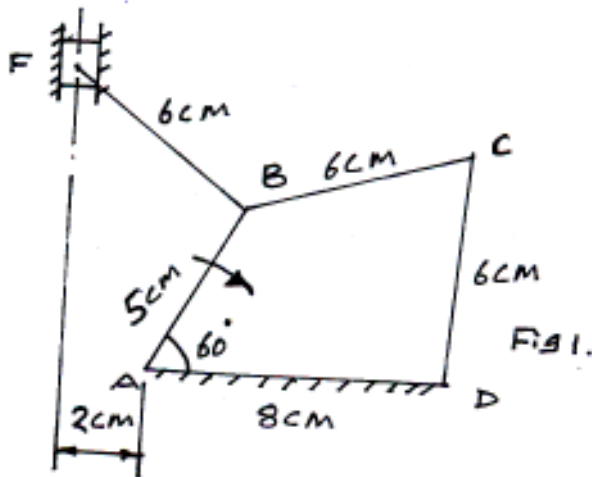

Fig. 1
3. Figure 1 shows a combined four bar and slider mechanism in which crank AB rotates at a uniform speed of 420 rpm. Determine :